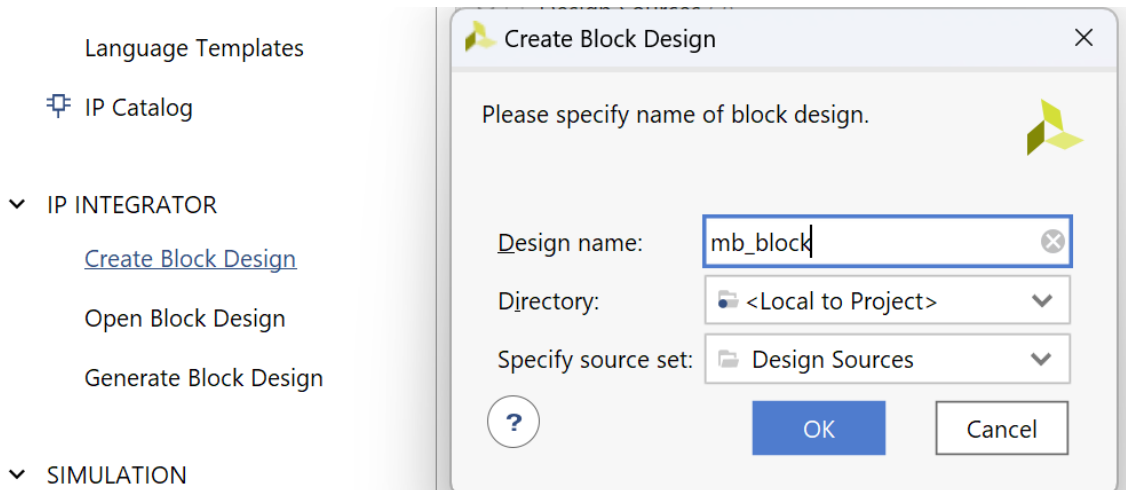

Figure 1 – Creating the Block Design
- In your blank project, go to the “IP Integrator” category and click on “Create Block Design”. Then name your block design (for our purposes, we have named this mb_block), but you might need to name this something else for future labs which use MicroBlaze. (See Figure 1)